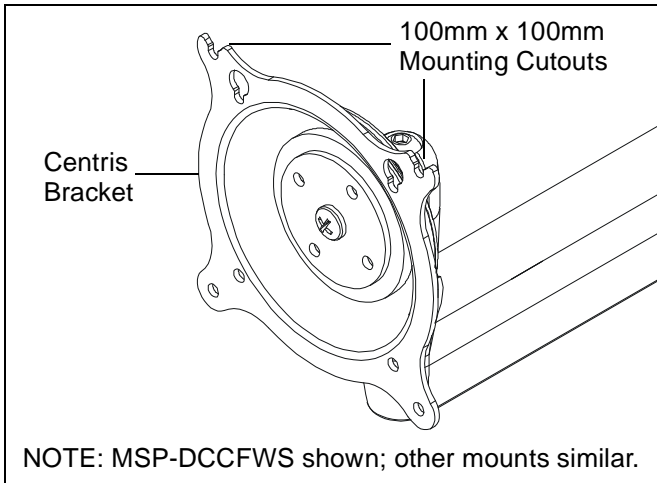

Figure 4
1. Ensure Centris bracket is able to swivel and tilt easily, yet still be tight enough to hold display in desired position (See Figure 4). Adjust as required before proceeding. See "ADJUSTMENT" for detail.
2. Rotate the Centris bracket so that the 100mm x 100mm mounting cutouts are on top. (See Figure 4)